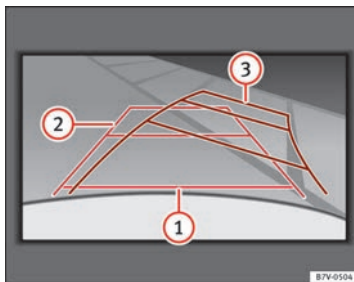

Fig. 150 Display: orientation lines for the parking space behind the vehicle
Meaning of orientation lines displayed on the screen ⇒ Fig. 150. All of the lengths of the orientation lines use a vehicle located on a horizontal surface as reference.
- Reverse slowly and turn the steering wheel so that the yellow orientation lines guide you towards the space ⇒ Fig. 150 ③.